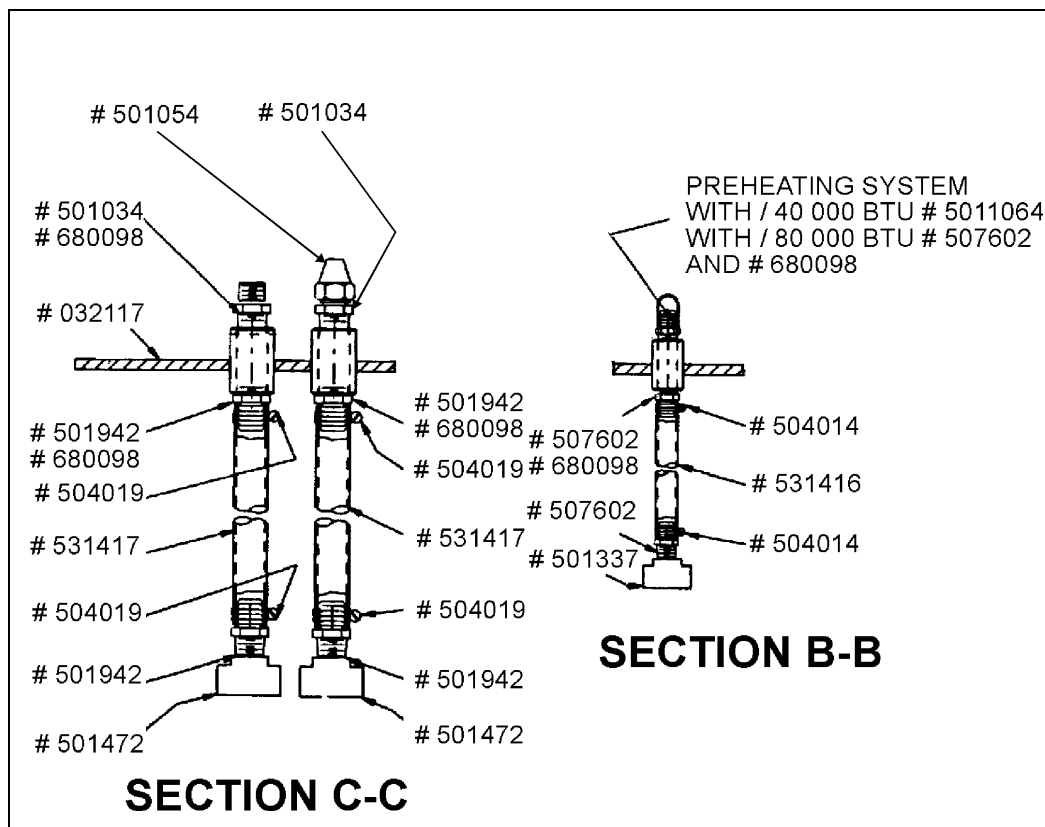

FIGURE 4: PICK-UP (SUCTION) TUBES ASSEMBLY
1. Preassemble the three pick-up (suction) tubes on the new control panel (Prévost #032117) as illustrated in figure 4.